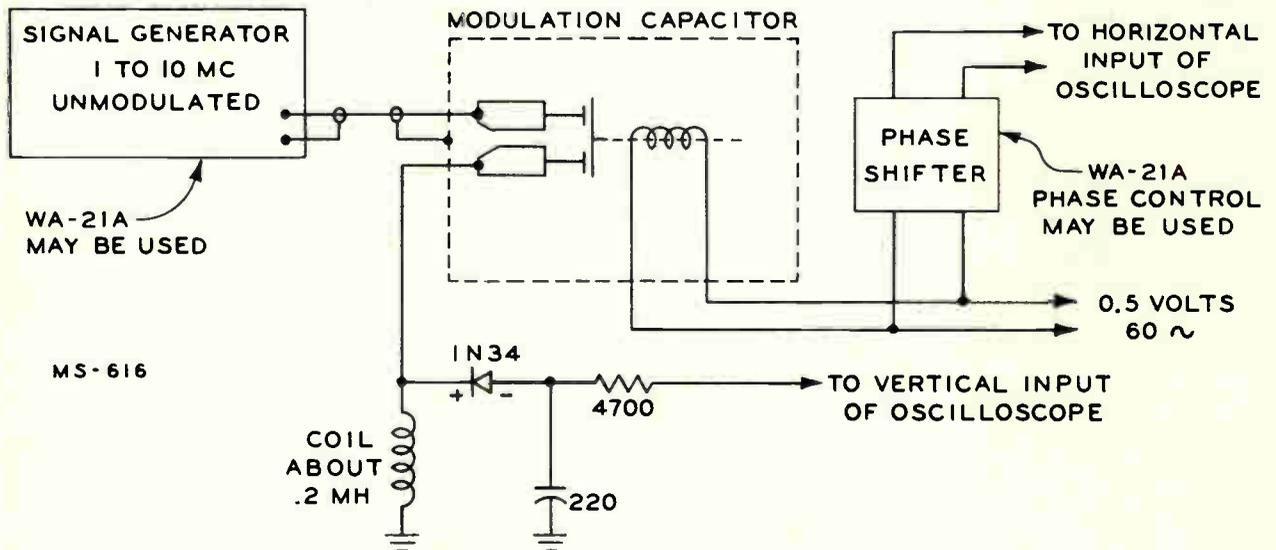

Figure 16—Modulation Capacitor Test Setup
6. The stator plates can be roughly centered by shifting the bakelite plate until the rubbing noise is not present. In order to insure maximum linearity, however, it will be necessary to center the stator plates exactly. The setup illustrated in Figure 16 is suggested for centering the stator.
7. Connect the vibrating capacitor as shown in Figure 16. Make the connecting leads to the capacitor plates as short as possible.
10. Vary the frequency of the signal generator until the tuning of the vibrating capacitor and the test coil is found to sweep through the generator frequency (This should be approximately 4 mc for the coil shown in Figure 16.)